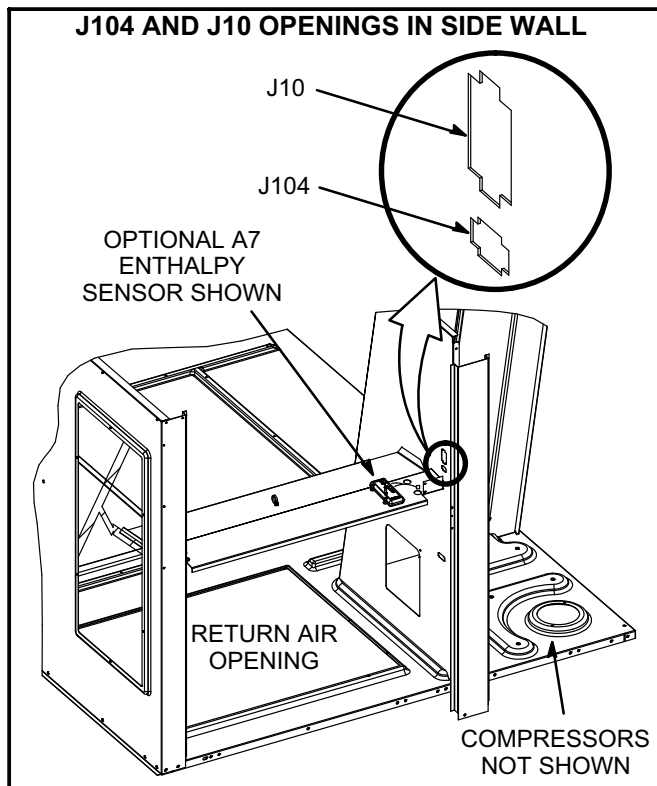

FIGURE 7
- 5- Push J10 and J104 from economizer control harness into openings in side wall. See figure 7.